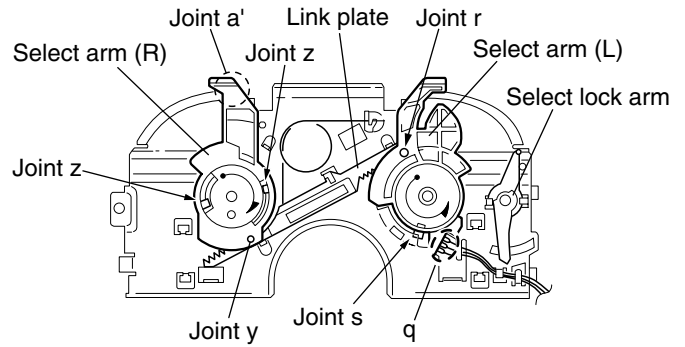

Fig.21
**■ Removing the select arm (L) / select lock arm (See Fig.21 and 22)**
1. Bring up the select arm (L) to release from the link plate (joint r) and turn in the direction of the arrow to release the joint s.
2. Unsolder the wire of the select arm (L) marked q if necessary.